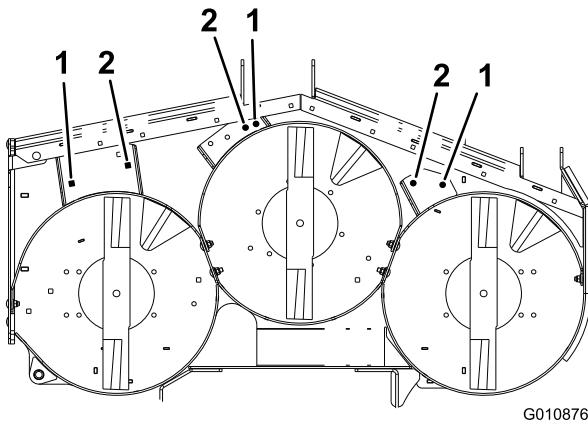
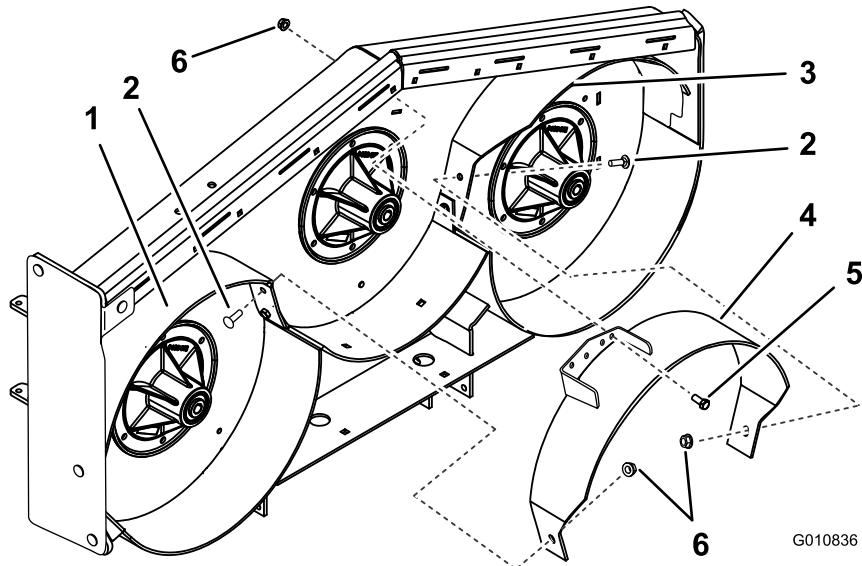

Figure 13
Figure 14
10. Loosely install the center baffle to the left baffle with 1 carriage bolt (3/8 x 1 inch) and 1 flange nut (small flange) (3/8 inch) (Figure 14). Refer to Figure 13 for the correct holes to use and the position of the baffles.
11. Loosely install the center baffle to the right baffle with 1 carriage bolt (3/8 x 1 inch) and 1 flange nut (small flange) (3/8 inch) (Figure 14).
12. Loosely install the center baffle to the top of the mower deck with 1 bolt (3/8 x 1 inch) and 1 flange nut (small flange) (3/8 inch) (Figure 14).